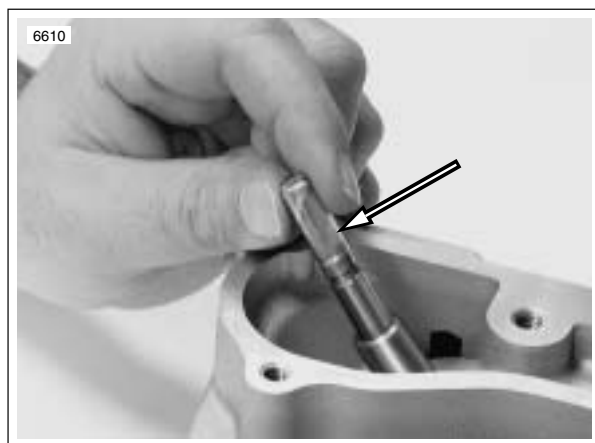

Figure 3-75. Valve Guide Seal Protector Sleeve
6. See Figure 3-75. Place a protective sleeve over the valve stem keeper groove.